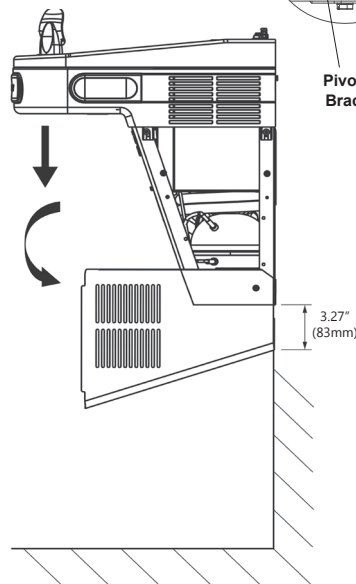

Fig. 9
3. When re-attaching wrapper, ensure each side of wrapper is engaged to pivoting bracket (see Fig. 9).